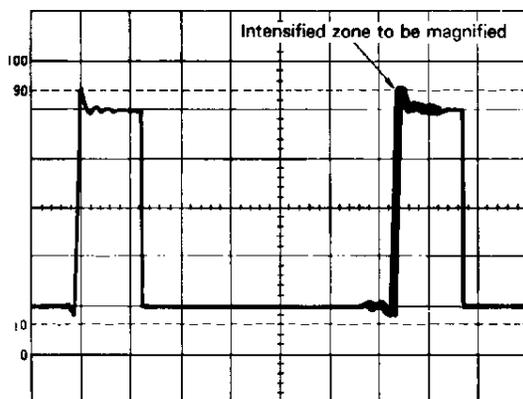
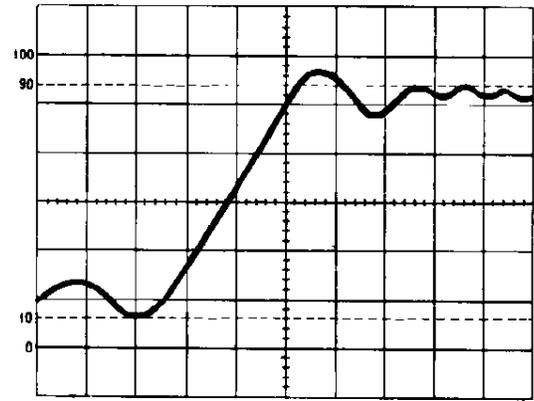

Fig. 11
Fig. 12
2. Set the B sweep in the **STARTS AFTER DELAY** mode. Set the **HORIZ DISPLAY** to the **INT** mode and the B sweep will appear as an intensified portion of the A sweep. The length of the intensified portion is adjusted by the **B SWEEP TIME/DIV** control. (Fig. 11).
3. Shift the intensified portion of waveform (section to be magnified) along the sweep A sweep by use of the **DELAY TIME MULT** ⑳.
4. Set the **HORIZ DISPLAY** to B to display the **INT** intensified portion as a magnified B sweep. (Fig. 12).